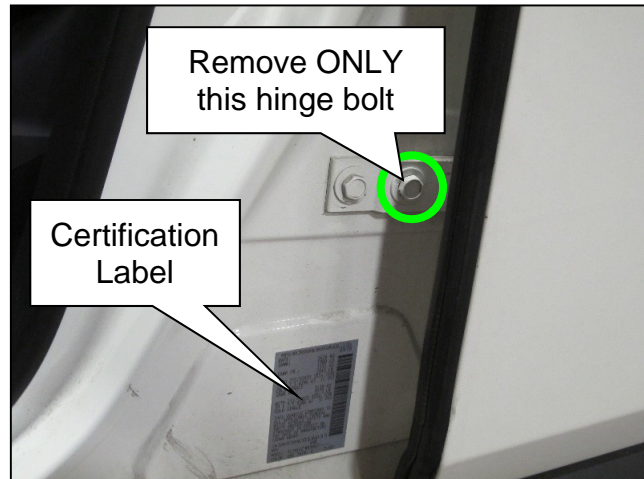

Figure 2
3. Locate the LH side rear door lower hinge bolt, as shown in Figure 2, and remove it.